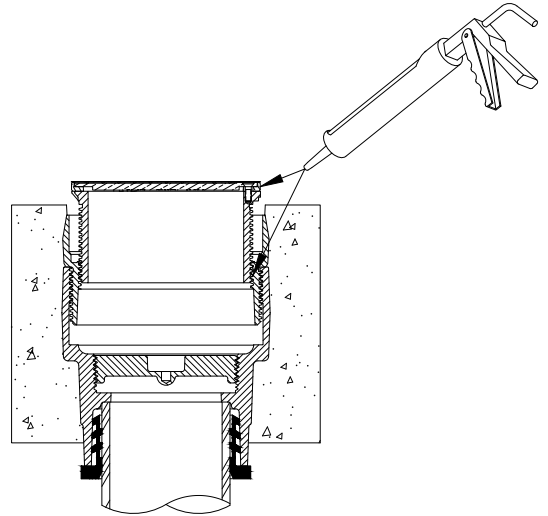

Fig. 9R
- 9a. Place a bead of silicone around the circumference of the last thread of the head assembly. See Fig. 9R
- 9b. Thread head assembly down until bottom of the frame is flush with the top of the concrete. See Fig. 9R
- 9c. Place a bead of silicone around the perimeter of the cover frame. See Fig. 9R